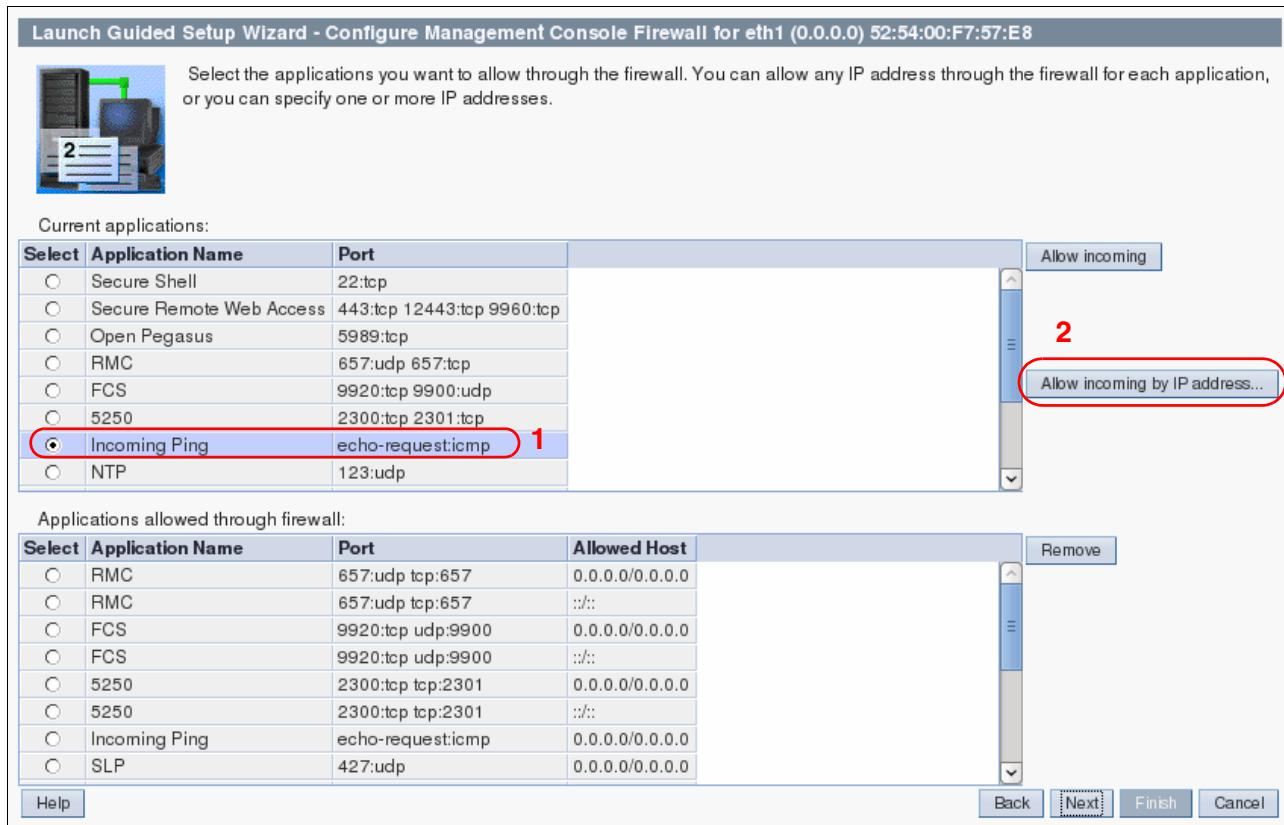

Figure 3-97 Firewall settings for incoming applications
26. Add the appropriate applications to be allowed by the HMC's firewall on eth1 (Figure 3-97). The top box lists the application to be enabled. The bottom box lists the application that are already enabled. In the *Current applications* list, select an application, and then click **Allow incoming by IP address** to add it to the *Applications allowed through firewall* list. Repeat this process for each application you need.